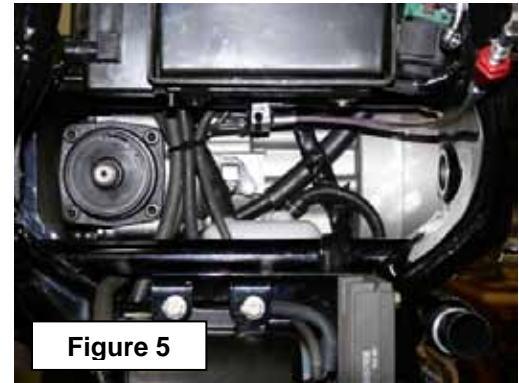
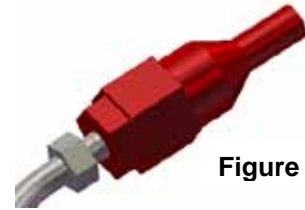

Figure 5
Figure 6
- h. Remove rubber brake hose and block from the hard brake line. Install 11" braided brake line to the hard brake line – Attach the "large" end of the braided line to the hard line. See Figure 5
- i. Install supplied (red) residual valve to supplied 24.75" braided brake line (See Figure 6), and attach to the 11" line (See Figure 5). The banjo end of the braided brake line will connect later to the T-block on the Rear End.
- j. Zip tie rubber hoses out of the way. See Figure 5